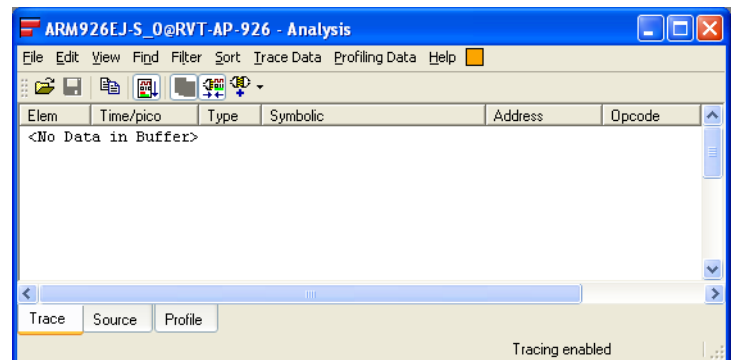

Figure 2-5 Analysis window
Select **View → Analysis Window** from the Code window main menu to open the Analysis window. Figure 2-5 shows an example:
- a. Select **View** → **Analysis Window** from the Code window main menu to open the Analysis window. Figure 2-5 on page 2-8 shows an example.